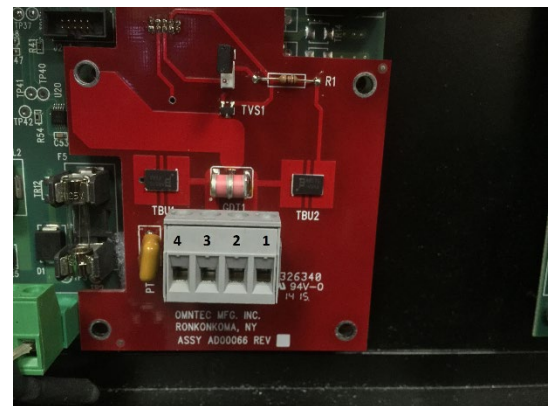

Figure 3.0
14. Prepare the proper ATG connection for RS-485. The RS-485 connection is located on the Proteus® MCU on a small red board (see Figure 3.0).